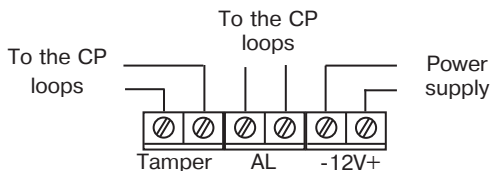

Figure 6
9.6 Fulfill connections in accordance with Figure 6.